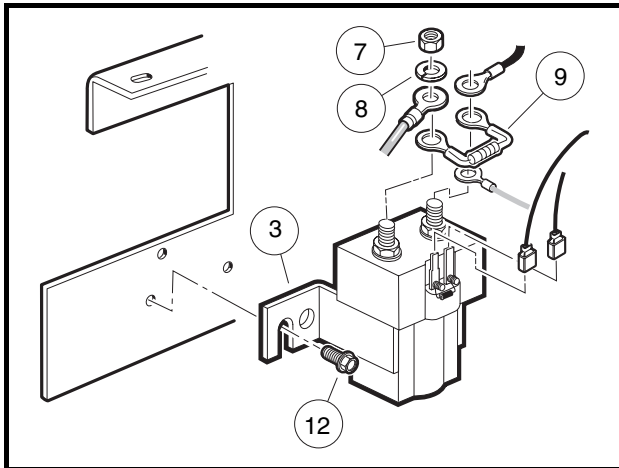
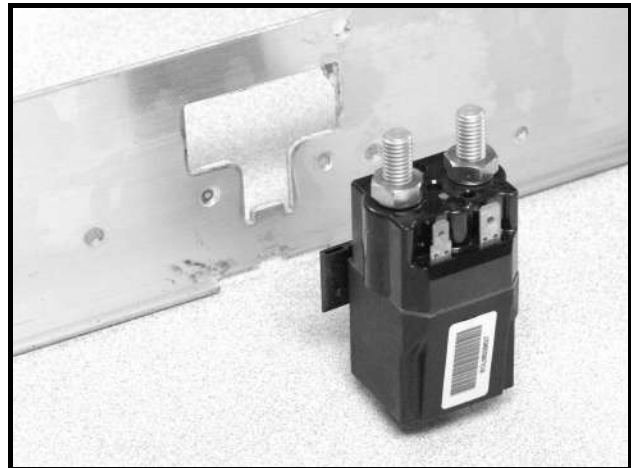

Figure 23-8 Screw-Mounted Solenoid
Figure 23-9 Slot-Mounted Solenoid
4. Screw-mounted solenoid (**Figure 23-8, Page 23-10**).
- 4.2. Lift the solenoid (3) up and off of the component mounting plate.
5. Slot-mounted solenoid (**Figure 23-9, Page 23-10**).
1. Mount solenoid onto component mounting plate with screws (12) (**Figure 23-8, Page 23-10**) or by engaging slot (**Figure 23-9, Page 23-10**).
2. Tighten screws (12) to 60 in-lb (6.8 N·m).
3. Using the wiring diagram, install the wires, resistor (9), washers (8), and nuts (7) onto the large mounting posts. Tighten nuts to 77 in-lb (8.7 N·m). See **Wiring Diagram on page 21-2.**
4. Install the blue/white and light blue wires onto the small terminals of the solenoid (**Figure 23-8, Page 23-10**).